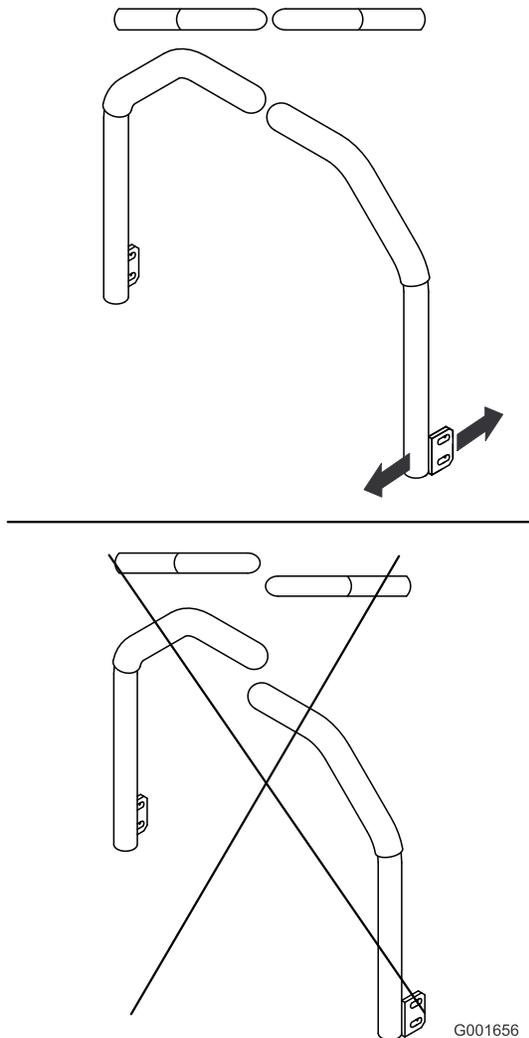

Figure 62
5. Adjust the control levers so that they line up (Figure 62) and tighten the bolts, securing the levers to the posts.